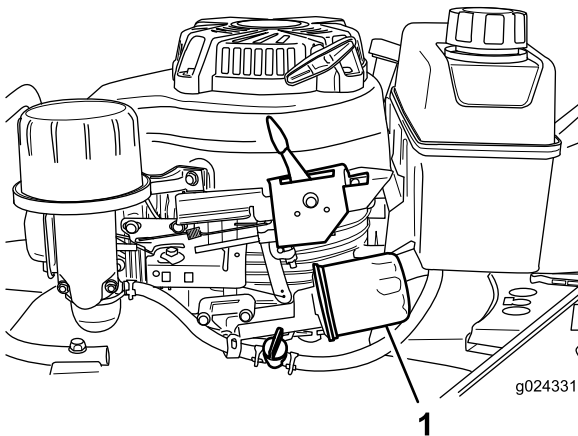

Figure 22
6. Place a rag under the oil filter (Figure 22) to catch any oil that may leak out as you remove the oil filter.